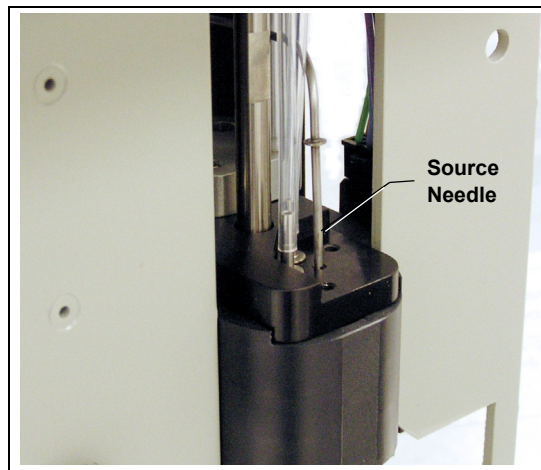

Figure 5-24. Removing the Source Needle from the Needle Block
5. Lift up the source needle to remove it from the needle block (see Figure 5-24) and then pull the needle through the rear of the needle assembly.